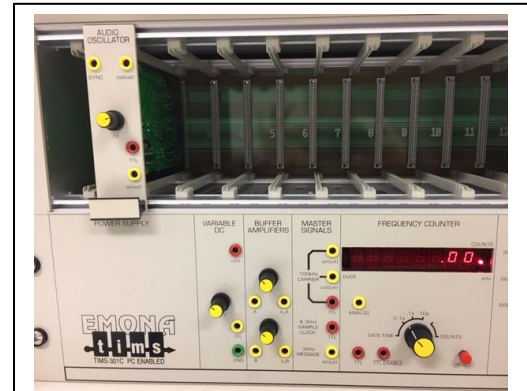

Fig 1 The AUDIO OSCILLATOR module shown inserted into Slot 2 of the TIMS rack.
1. Insert the AUDIO OSCILLATOR module into the TIMS rack (shown here in slot 2 of Figure 1).